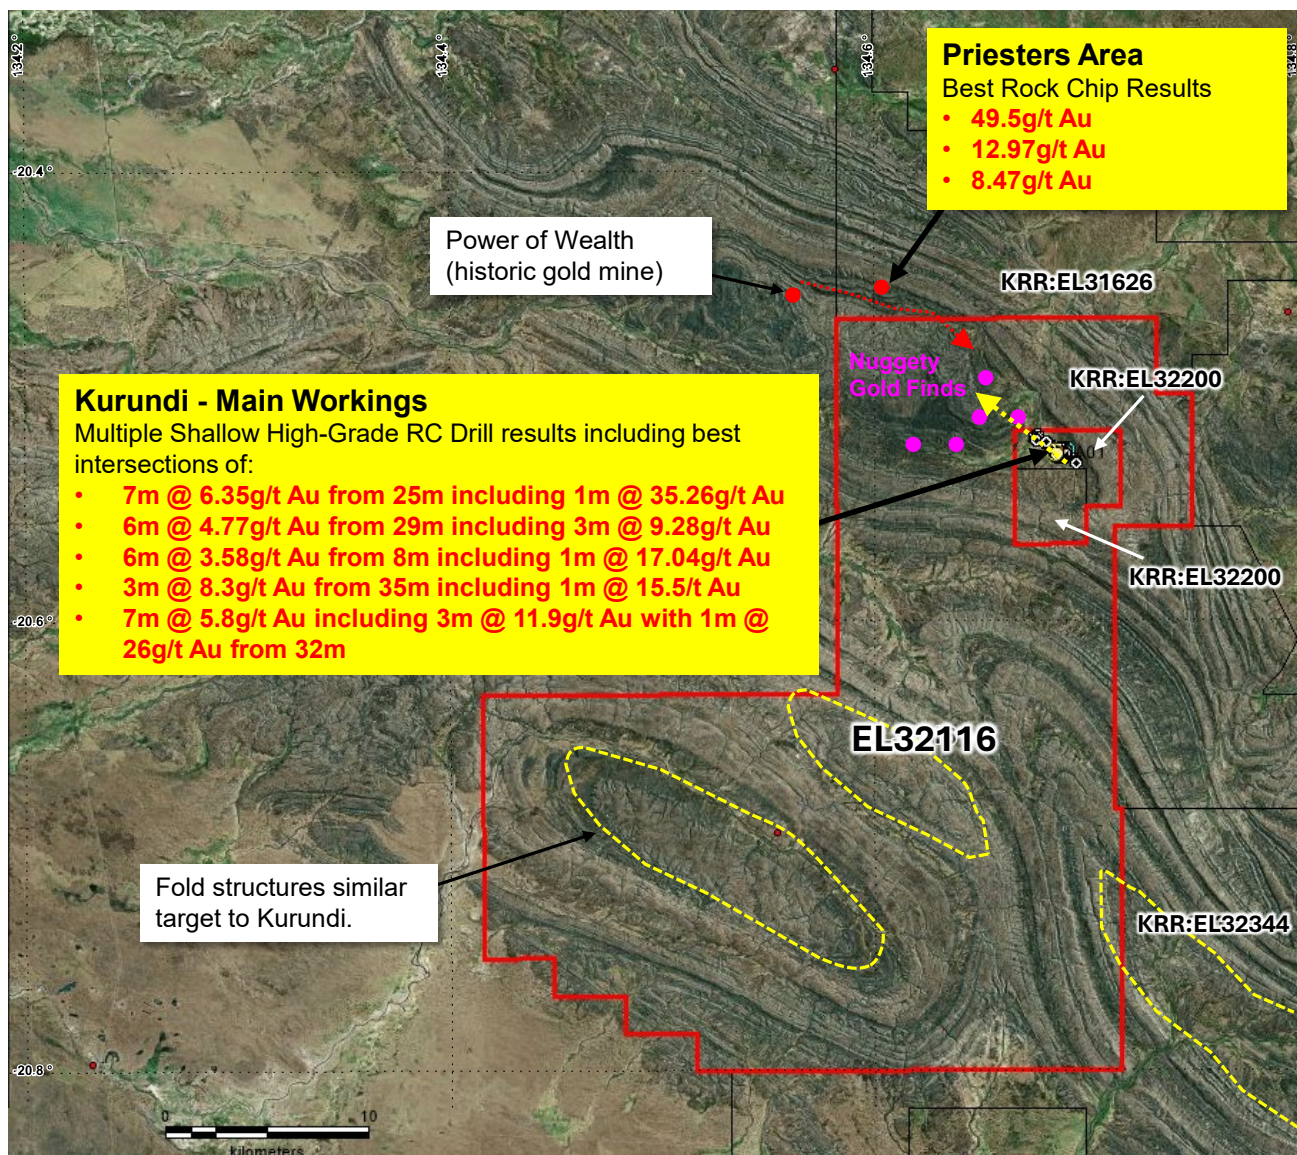

Figure 2: Map showing newly acquired Exploration Licence EL32116 and associated prospects.
The company has acquired tenement EL32116 from Woodleigh Nominees Pty Ltd. The tenement surrounds EL32200 and covers several excellent exploration targets (Figure 2), including:
- The northwest strike extents of the Kurundi vein and shear zone – where KRR's RC drill programmes have been returning high grade gold intersections (Figure 2).